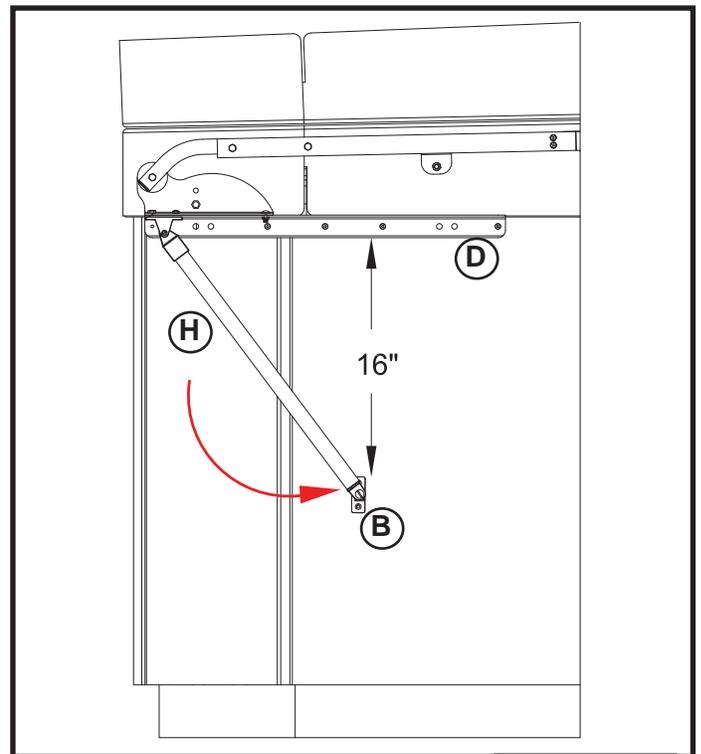

Figure 6.1
1. Swing the Support Tube (H) forward until the distance from the bottom of the Auxiliary Bracket (D) to the top of the Side Hinge (B) is approximately (16") (Figure 6.1).